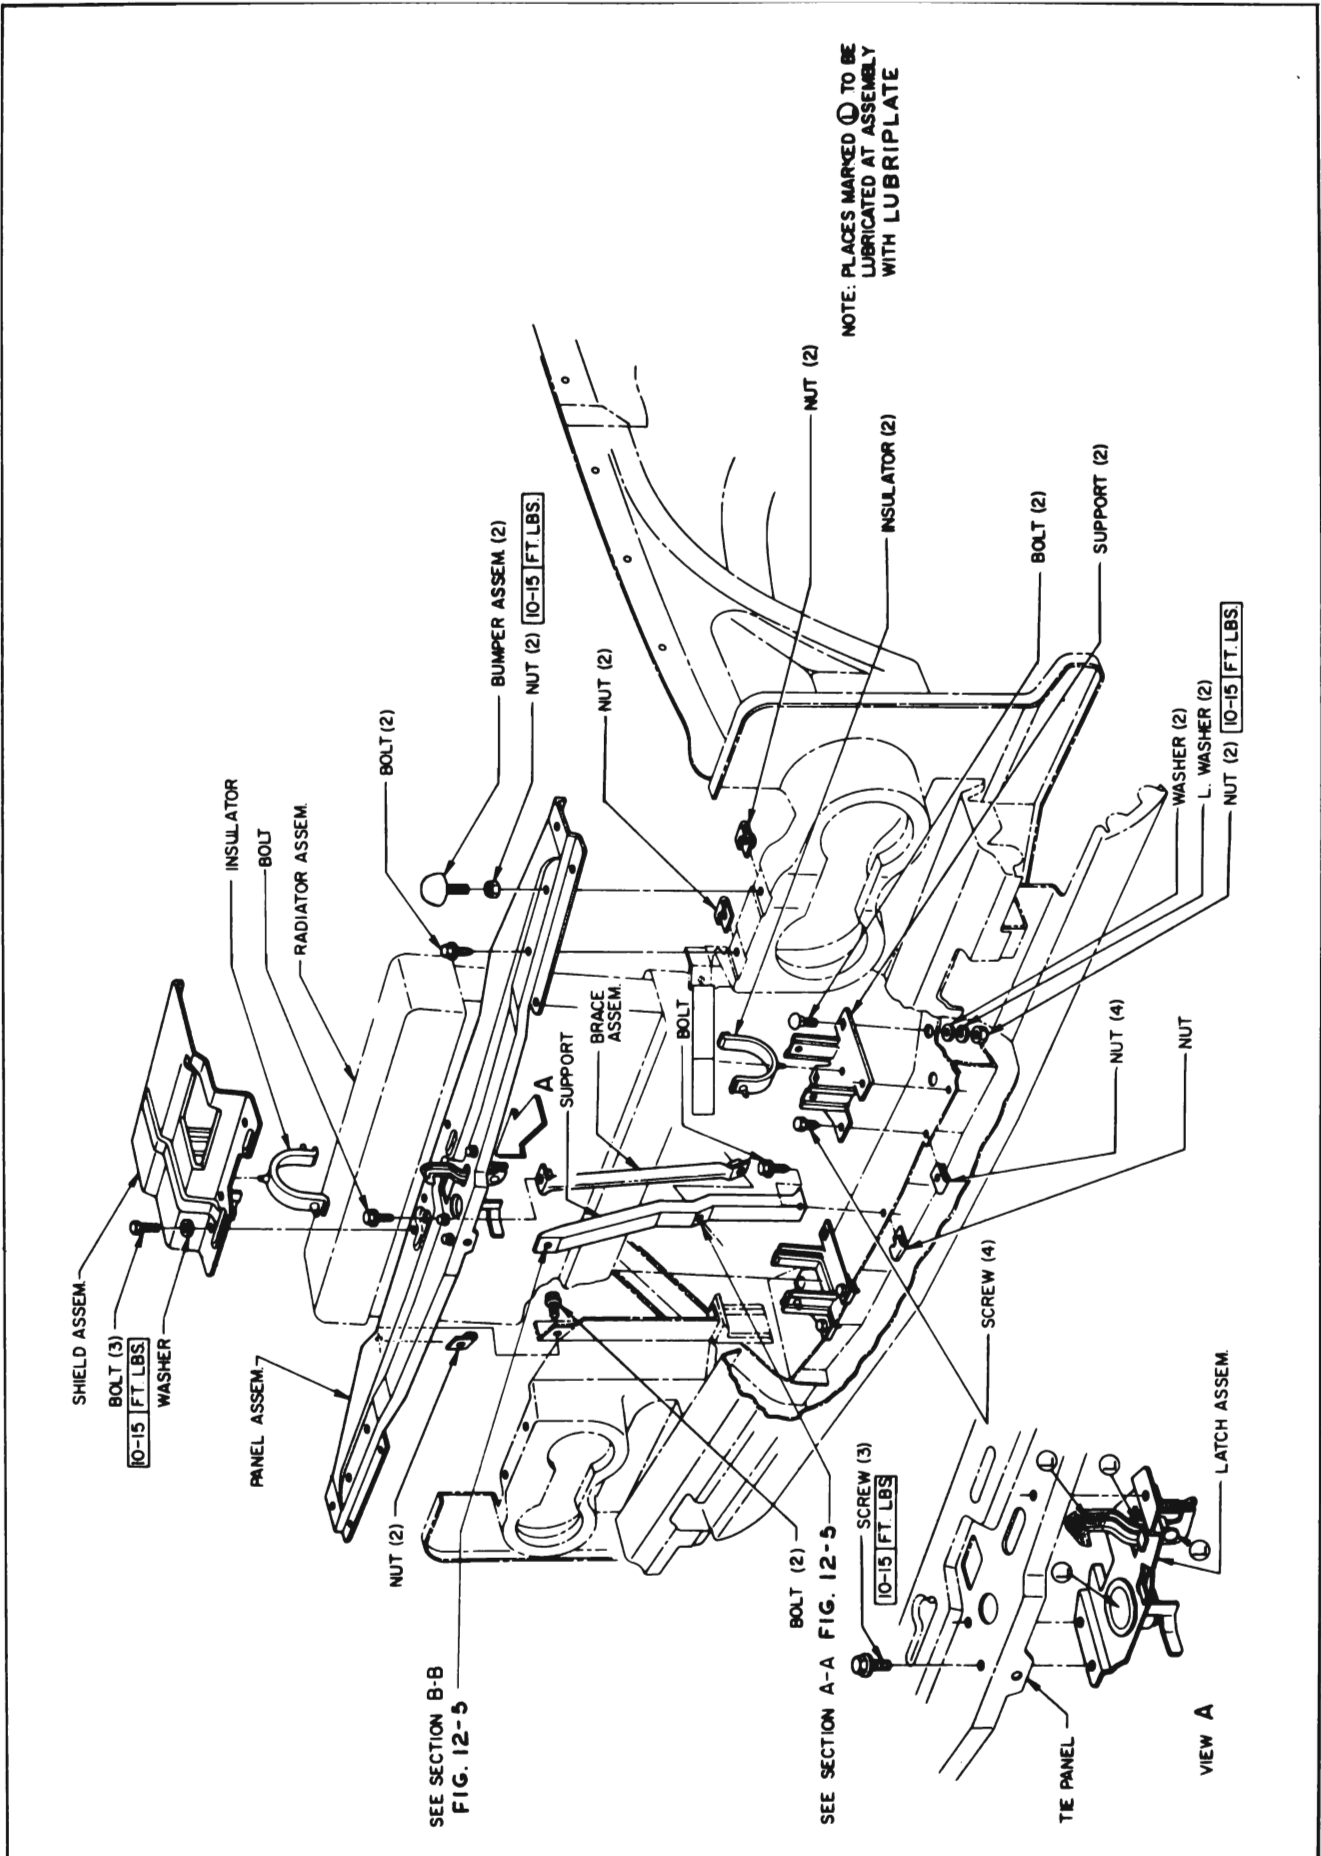

Figure 12-4 — Upper Tie Bar, Radiator Supports and Hood Latch Installation
The radiator assembly is suspended by three rubber-faced "U" shaped supports. See Figure 12-4. The two lower supports are attached to the front body rail and the upper support is part of the fan shield which is attached to the upper tie bar panel. Adjustment of the radiator alignment is provided by the screw holes in the supports being larger than the attaching screws.
IMPORTANT: Do not tighten the three fan shield retaining bolts any tighter than specified on Figure 12-4 as upper tie bar may be damaged.
mechanism in the front of the upper tie bar panel (Figure 12-4).
6. Latch Alignment. Raise and lower the front end of the hood slowly several times to check for proper alignment between the latch bolt and guide on the hood and the lower latch assembly on the upper tie bar panel. The latch bolt and guide should enter the opening in the lower latch without any side strain or other interference. See Figure 12-4 and 12-6.